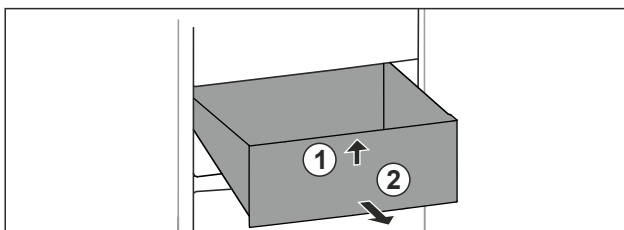

Fig. 81
- ▶ Lift up drawer at the front. Fig. 81 (1).
- ▶ Remove drawer to the front. Fig. 81 (2).